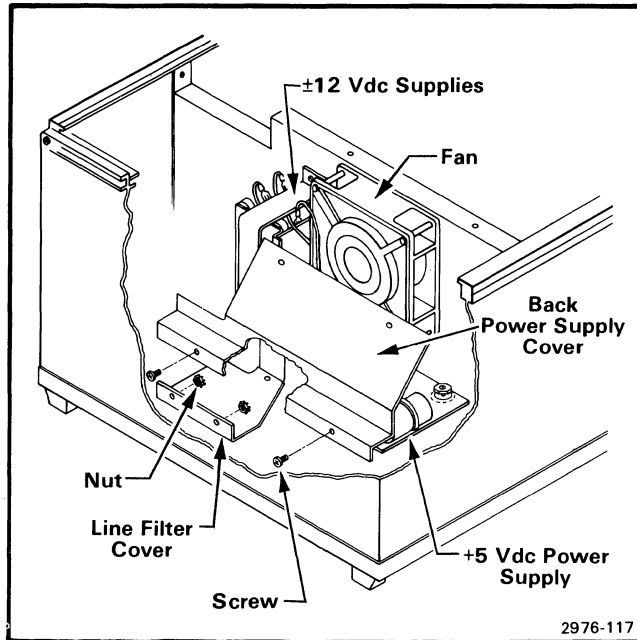

Fig. 8-6. 8301 Power Supplies.
5. Locate and remove the smaller half of the power supply cover shown in Fig. 8-6. It is held by two screws through the 8301 rear panel.
6. Locate and remove the line filter cover shown in Fig. 8-6. It is held by two nuts and one screw. As you remove the cover, avoid damaging the wiring directly above it.